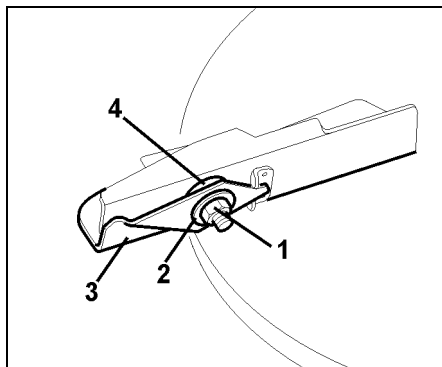

Fig. 65
- Remove self locking nut (Fig. 65/1).
- Take off spring washers (Fig. 65/2).
- Exchange swivel blades (Fig. 65/3).
- If necessary also exchange plastic disc (Fig. 65/4).
- **Heap up** spring washers (Fig. 65/2) **reciprocally** (do not stack).
- Tighten self locking nut (Fig. 65/1) with a torque of **6 - 7 Nm** so that the swivel blade can still be swivelled by hand, however does not swivels upwards by itself when being in operation